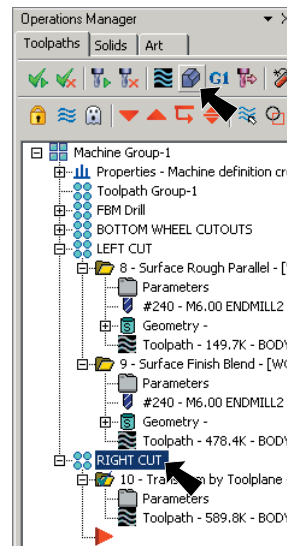

Fig. 103
Step 1. In the Toolpaths Manager, **RIGHT CUT Toolpath group** to select both mirrored toolpaths, **Fig. 103**.